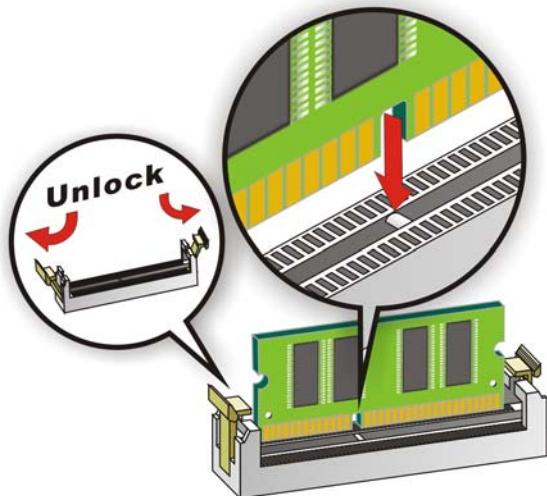

Figure 4-7: SO-DIMM Installation
To install a SO-DIMM, please follow the steps below and refer to **Figure 4-7**.
- Step 1:** **Open the SO-DIMM socket handles.** Open the two handles outwards as far as they can. See **Figure 4-7**.
- Step 2:** **Align the SO-DIMM with the socket.** Align the DIMM so the notch on the memory lines up with the notch on the memory socket. See **Figure 4-7**.
- Step 3:** **Insert the SO-DIMM.** Once aligned, press down until the SO-DIMM is properly seated. Clip the two handles into place. See **Figure 4-7**.